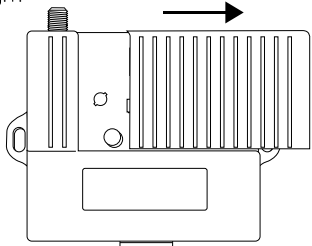

Fig. 1
**Step 1.** Open the access door by sliding it to the right. See Fig.1.